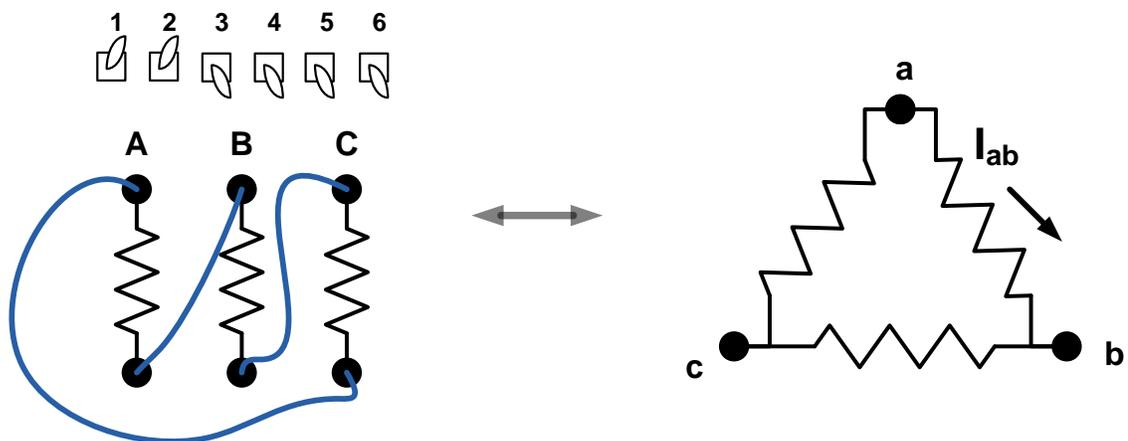

Figure 6
Step Three: Construct a 3 Phase Delta connected load (Figure 6).
- Construct a Delta-connected load by connecting the neutral points of the resistor loads “A”, “B”, and “C” to the appropriate resistor load RED / BLUE / BLACK connections (Figure 6).